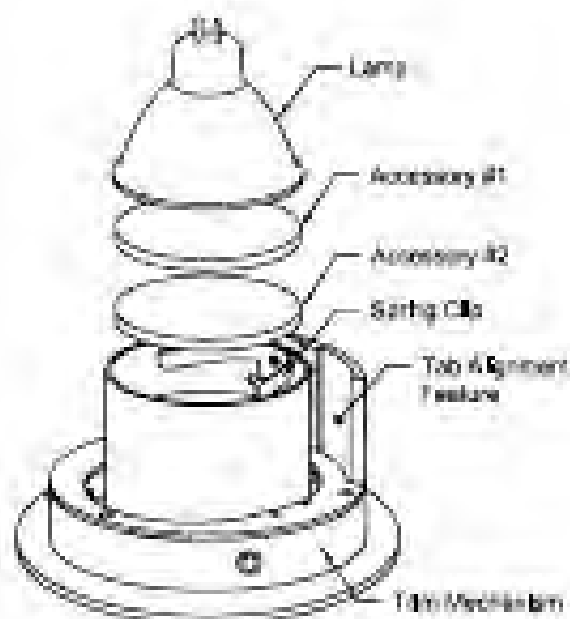
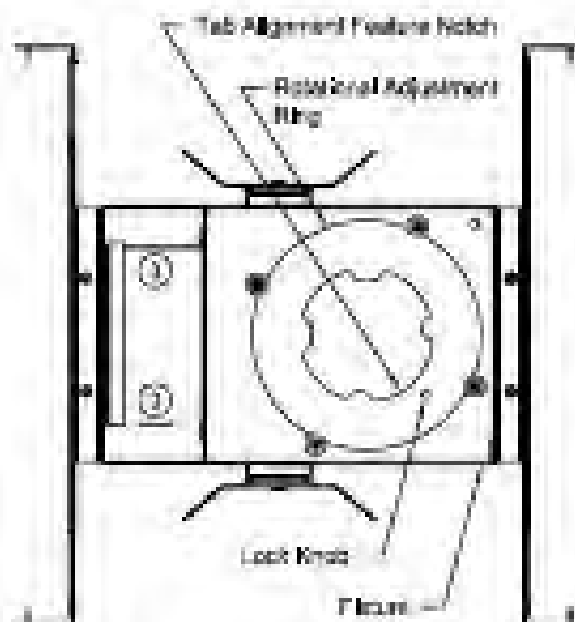

Figure 3
Figure 4
2. Slide out Lamp and/or accessories from under Bracket Arm to remove. See Fig. 3.
4. To ensure original light beam placement, align Tab Alignment Feature on Trim Mechanism (See Fig. 3 & 4) with Tab Alignment Feature on Rotational Adjustment Ring Inside Fixture (See Fig. 4).
3. Tighten Lock Knob Inside Fixture to lock Rotational Adjustment Ring. See Fig. 4.